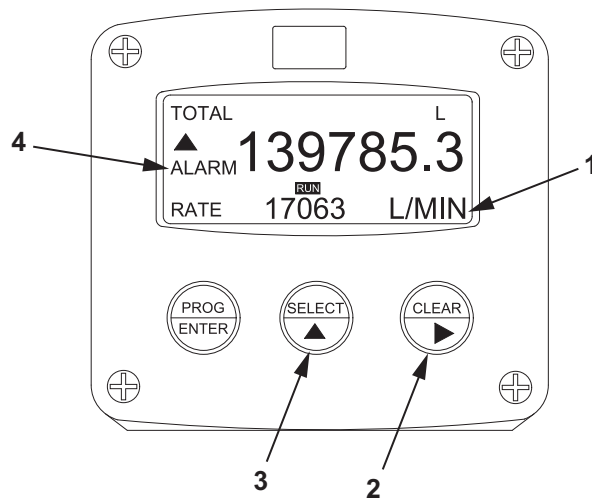

Figure 28. Tank Volume Meter Monitor Display.
- a. Press the CLEAR key (Figure 28, Item 2) once. The monitor display (Figure 28, Item 1) will flash the message: "PUSH CLEAR".
- b. Press the CLEAR key (Figure 28, Item 2) to avoid clearing the calculated total.
2. Press the SELECT key (Figure 28, Item 3) to display the accumulated total.
- a. Press the SELECT key (Figure 28, Item 3) several times when ALARM (Figure 28, Item 4) starts to blink in the monitor display (Figure 28, Item 1). A four-digit error code will appear.
- c. Contact Unit Maintenance if error codes remain active in the monitor display (Figure 28, Item 1).